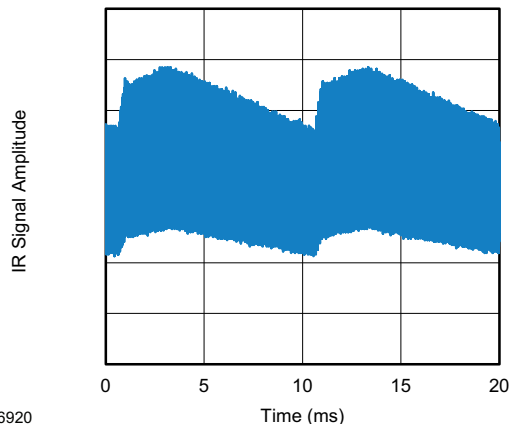
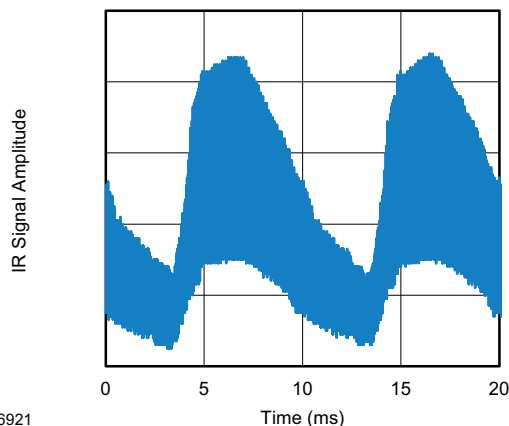

Fig. 14 - IR Disturbance from Fluorescent Lamp with Low Modulation
Fig. 15 - IR Disturbance from Fluorescent Lamp with High Modulation
- Strongly or weakly modulated patterns from fluorescent lamps with electronic ballasts (see Fig. 14 or Fig. 15).
| Suppression of interference from fluorescent lamps                         | Fig. 14                         | Fig. 14 and Fig. 15             | Fig. 14 and Fig. 15              |